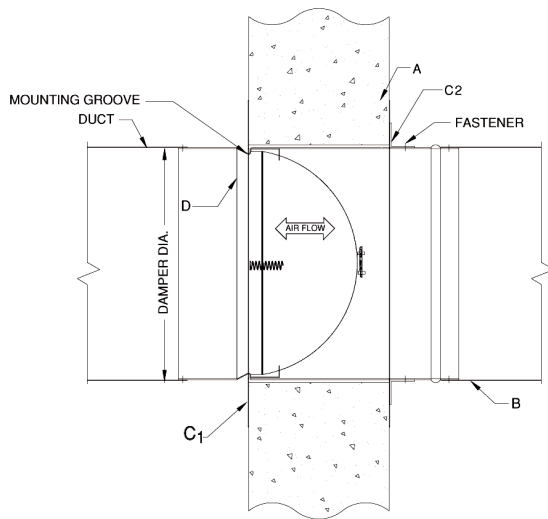
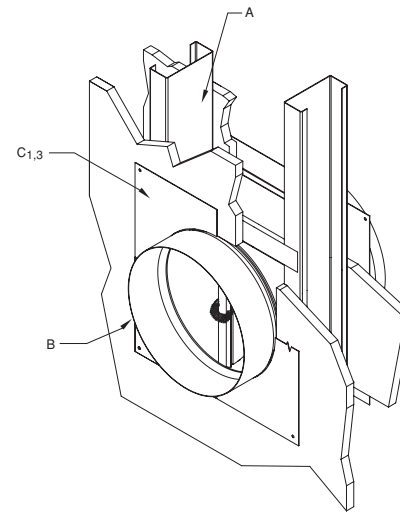
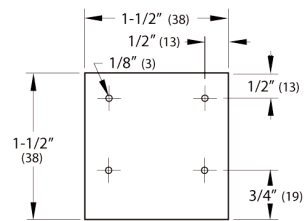
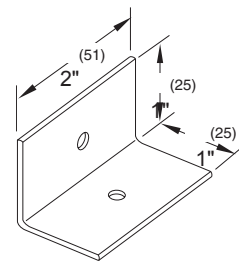

Figure 1
Figure 2
Figure 5
Figure 8
- A.** Concrete or masonry fire partition shown in figure 1. Wood or steel stud fire partition shown in figure 2. See Wood Stud and/or Steel Stud Framing for Fire Dampers In Drywall and/or Cavity Shaftwall Partitions Supplemental Installation Instructions for further vertical installation details. The square or round opening shall be a minimum of 1/4" (6) with a maximum of 3/4" (19) larger, but less than 6" (152) the mounting angles must be a minimum of 16 gauge (1.5) and must be tall enough to overlap the opening by a minimum of 1" (25). Damper must be installed with leading edge of closed blade within the partition.
- B.** The connecting duct shall not be continuous, and shall terminate at the sleeve/frame using one or more of commonly used break away style connections. Refer to Sleeve Termination Supplemental Installation Instructions for further details. Damper sleeve shall not extend more than 6" (152) beyond the rated partition unless an access door is installed in the sleeve which then permits the extension to be a maximum of 16" (406).
- C1.** The holding plate mounting groove of damper sleeve must be flush with wall. Seat the holding plate (see figures 3, 3A & 4) into the mounting groove on operator side of damper. Then place the plate until it touches partition. Then place guide plate (see figures 3A and 4) around the opposite side of damper sleeve and slide forward until it touches partition. Secure both plates with joiner clips (see figure 5) using four 1/8" (3) minimum rivets, #10 (M5) sheet metal screws, bolts or welds per joiner clip. A minimum of 3 clips angles (see figure 8) shall be arranged symmetrically around the damper and fastened to the damper sleeve on the guide plate side of the partition and on in contact the guide plate. Fasteners shall be #10 (M5) screws, bolts, 1/8" (5) rivets or welds. The guide plate shall be attached to the rated partition with #10 (M5) screws, bolts or 1/8" (3) rivets. If the plate is square, (for square openings) it must be attached to the partition at all four corners. If the plate is round, (for round openings) it must be attached to the partition with a minimum of four fasteners, equally spaced around the circumference of the plate. As an alternative to the above, the dampers can be installed as follows: